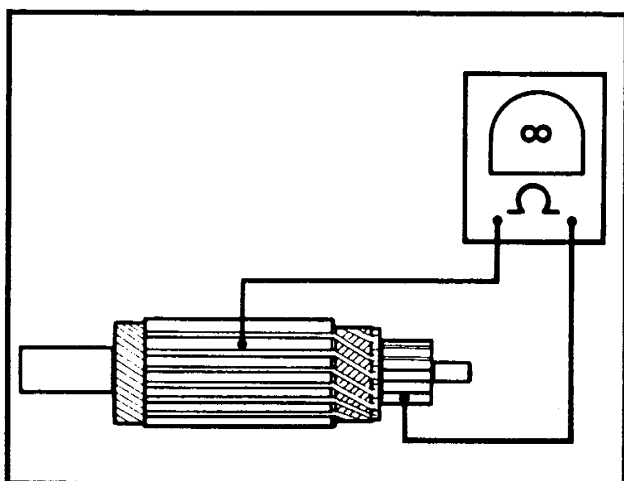

Figure 5-37. Grounded Armature Test
- See Figure 5-37. Check for a **GROUNDING ARMATURE** with an ohmmeter or continuity tester. Touch one probe to any commutator segment, and the other probe to the armature core. There should be no continuity (infinite ohms). If there is any continuity the armature is grounded and should be replaced.